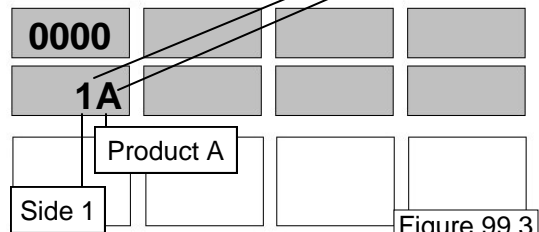

Figure 99.3
3. After you press **ENTER** then you will be able to view the E-Cal values for each product. See figure 99.3